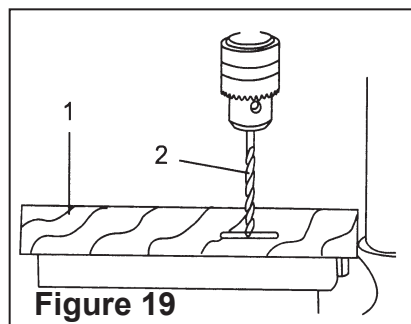

Figure 19
#### Workpiece method (Figure 19 and 20)
2. With the switch "OFF", bring the drill bit (2) down until the tip is even with the mark (Figure 19).